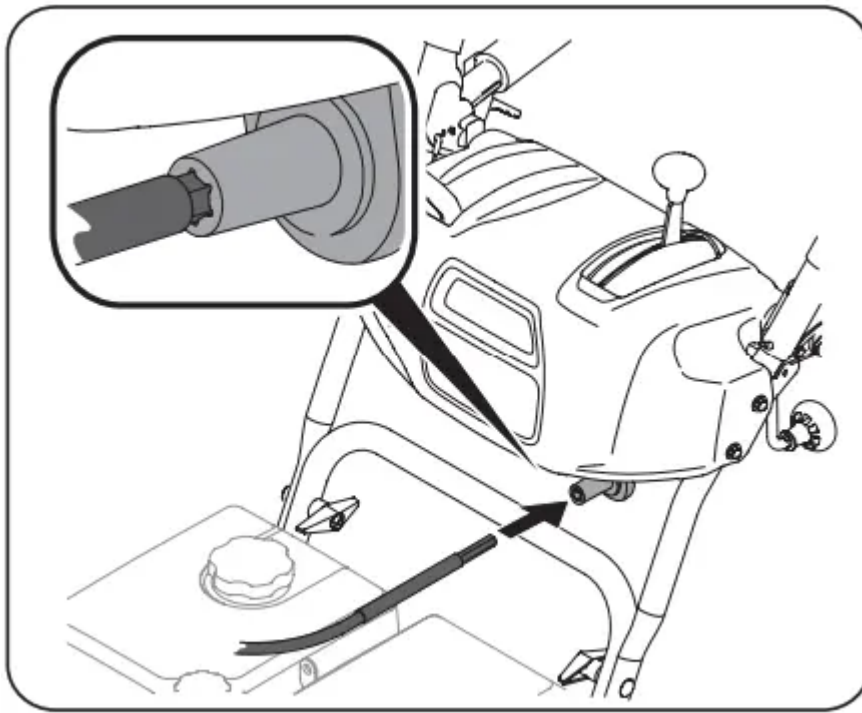

Figure 30
6. Insert hex end of flex shaft into chute control rod coupling under dash panel. See Figure 30.